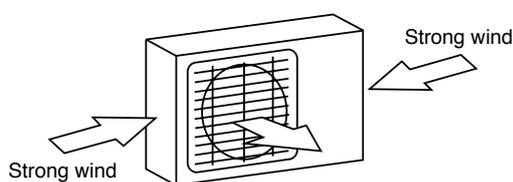

Fig. 5.1
- ☑ If the location is exposed to strong winds (for example: near a seaside), the unit must be placed against the wall to shelter it from the wind. If necessary, use an awning. (See Fig. 5.1 and 5.2)